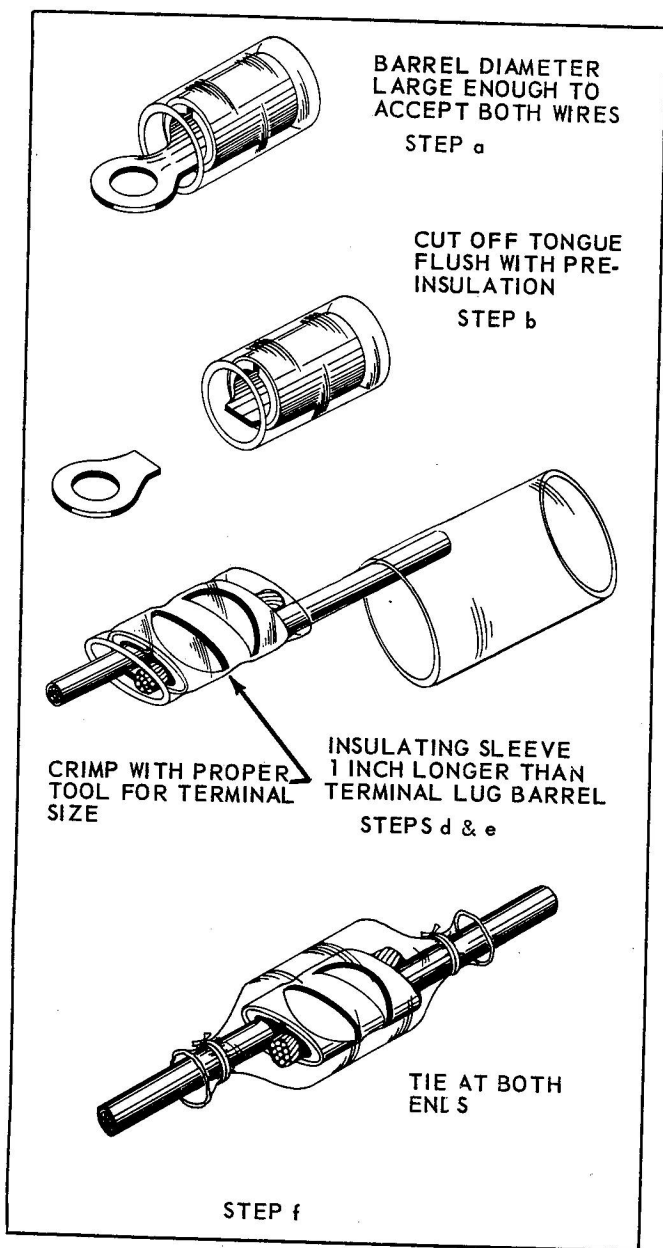

Figure 14-2. Terminal Lug Barrel Repair
- e. Crimp the barrel in the center following the procedures of Section V. (See Figure 14-2).